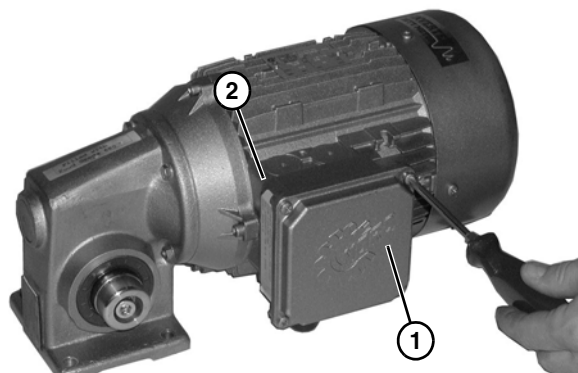

Figure 13
1. Loosen the screws and remove the cover (**Figure 13, item 1**) from the junction box located on the side of the motor (**Figure 13, item 2**).